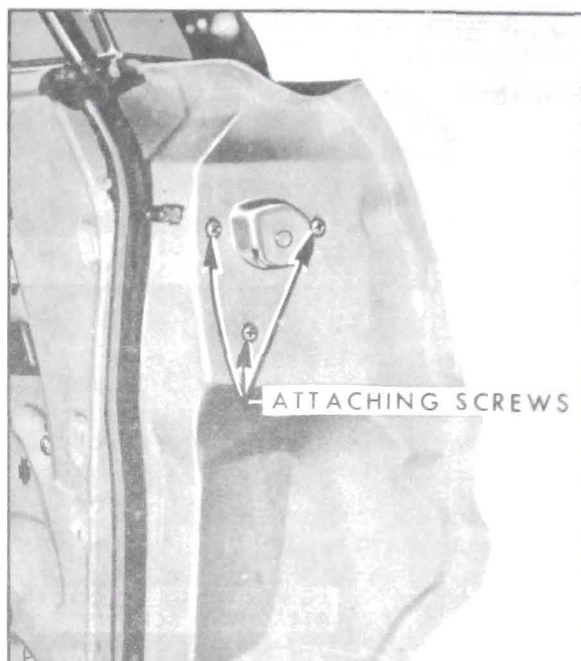

Figure 2-35—Rear Door Lock Assembly
4. At lock pillar facing, remove door lock attaching screws and remove lock assembly through access hole. (See Figure 2-35)